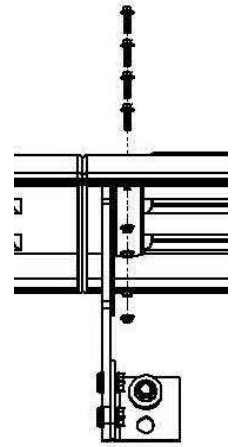

Figure 10
G. Drill four 5/16" holes through the fender using the holes in bracket PB5071 as a guide (Figure 10).